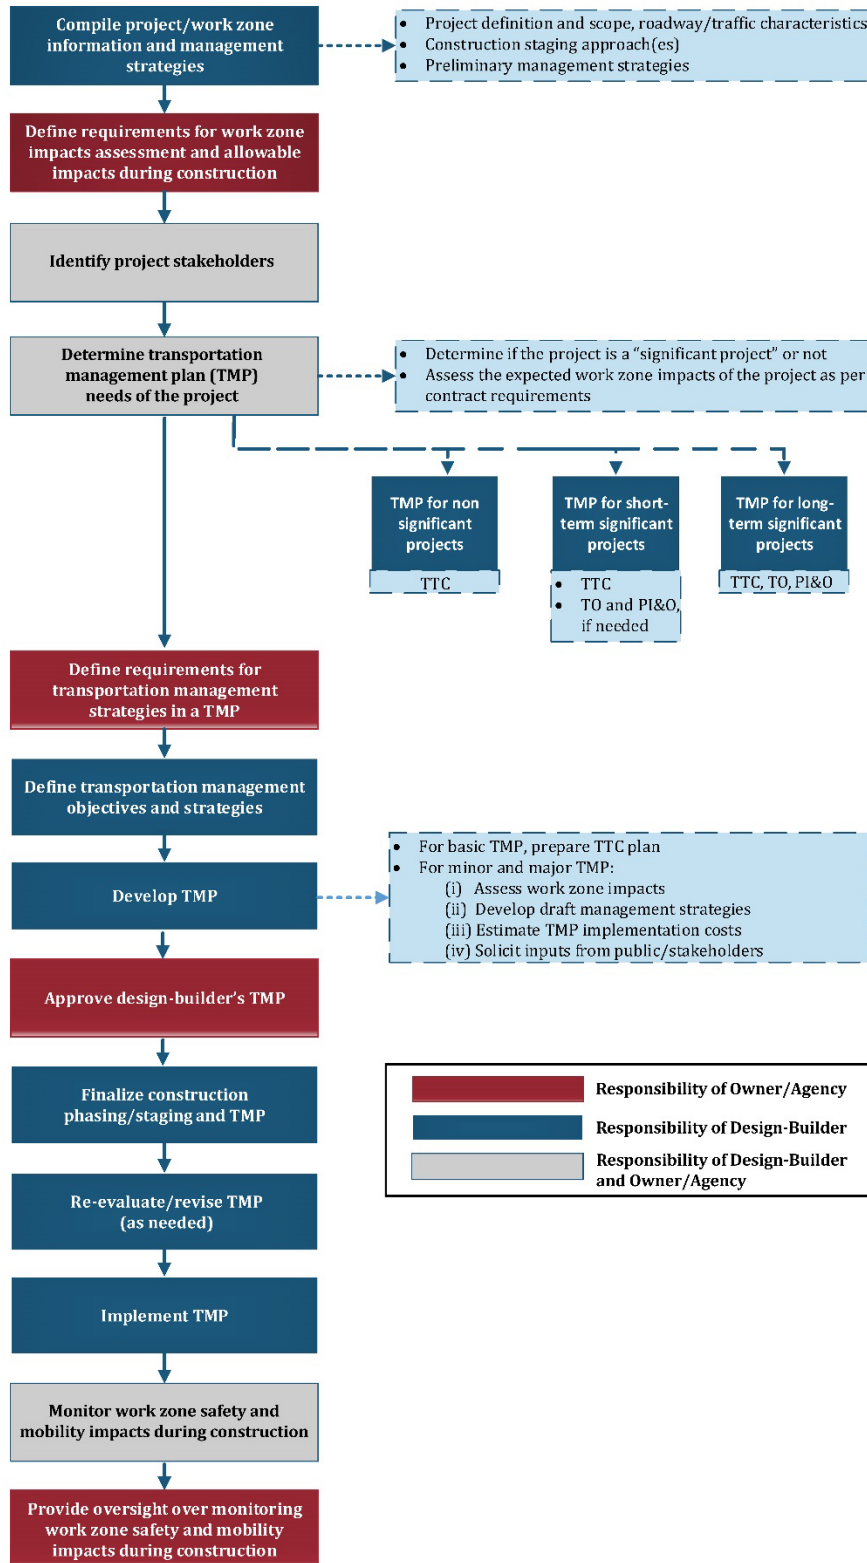

Figure 1. Flowchart. Transportation management plan development process.
The TMP development process involves identification of transportation management strategies to manage the work zone impacts of the project under consideration. These strategies are re-evaluated/revised as needed before the implementation of the TMP. In the TMP development process, the owner/agency is responsible for defining requirements for (1) work zone impacts assessment and allowable impacts during project construction and (2) transportation management strategies. To facilitate the TMP development process, the design-builder has to compile project information, identify project stakeholders, define TMP strategies, develop, finalize, and implement TMP, and monitor work zone safety and mobility impacts during construction. Once the TMP plan is implemented, the owner/agency will be responsible for providing oversight over monitoring work zone safety and mobility impacts during construction. Figure 1 presents the TMP development process for a typical design-build project.